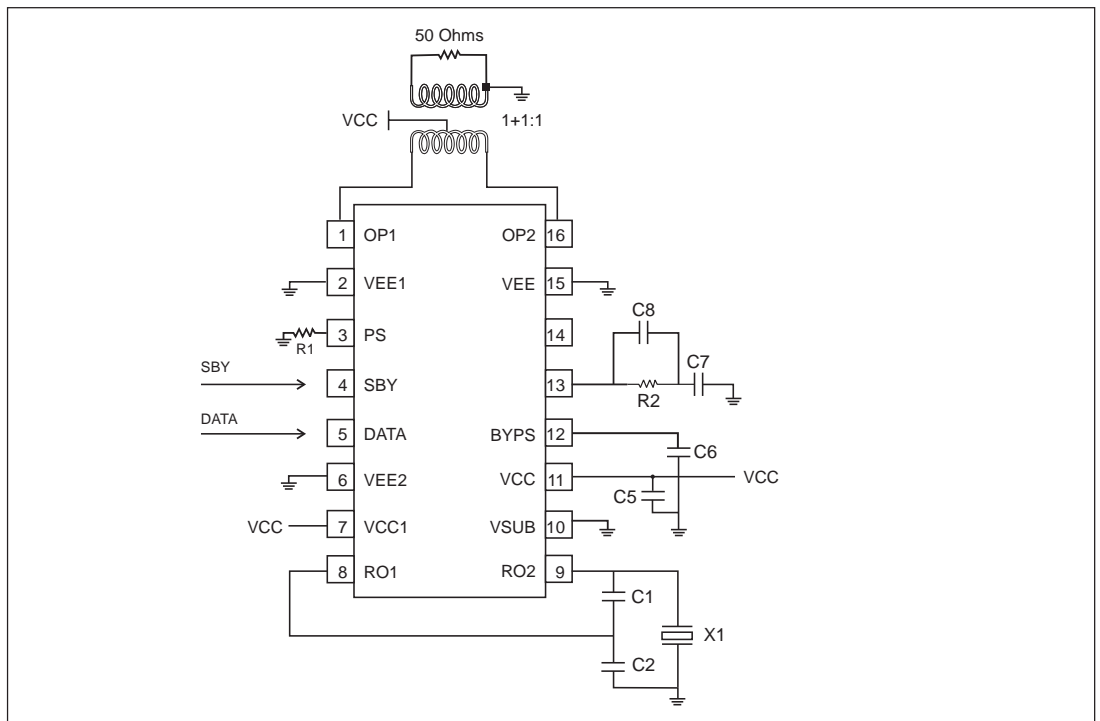

Figure 2: Application Diagram
All specification parameters guaranteed only with the following components (please refer to figure 2 for application circuit):
Figure 2 shows a typical application diagram. In order to minimise second harmonic distortion, a differential output configuration is recommended. The LND TRM34 needs the following:
- 3) the PLL synthesizer is designed to operate with an external second order loop as shown in figure 2, with component values as shown in Table 7. These values determine the loop bandwidth and dynamics and operation of the loop is not guaranteed for any other values